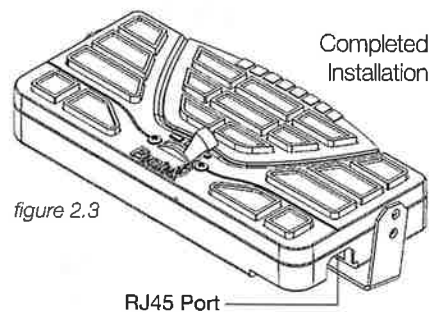

figure 2.3
Step 4. Connect the RJ45 cable to the RJ45 port located on the rear of the controller (*as shown in figure 2.3*).
Step 3. Connect the RJ45 cable to the RJ45 port located on the rear of the controller (*as shown in figure 2.3*).